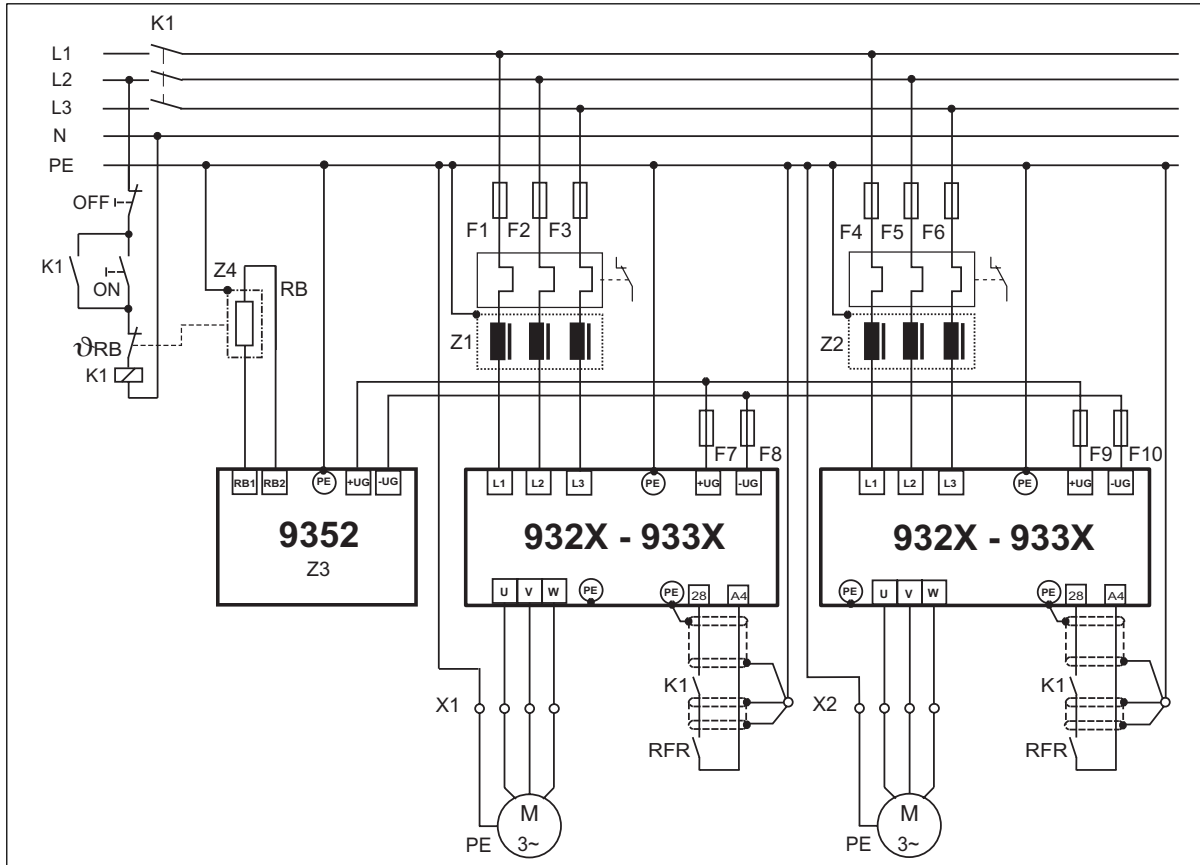

Abb. 4-9 Decentralized supply with DC-bus connection of several drives
- Abb. 4-9, “Decentralized supply for DC-bus connection of several drives”. (4-18)